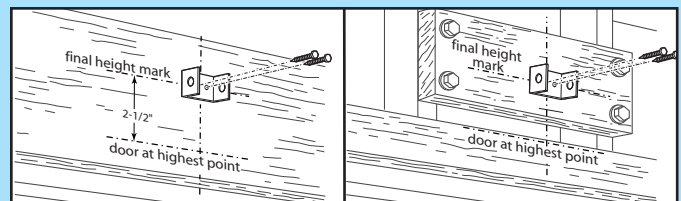

FIG. 2-3 Header bracket mounting (on header & above header).
**NOTE:** If header bracket location needs to be above header for garage door opening, you need to add a "mounting surface." A 2" x 6" board securely attached (board and fasteners not included) to wall studs on either side of your mark is sufficient (**Fig. 2-3**).
- Hold header bracket against wall (**Fig. 2-3**).
- Fasten header bracket with 2 lag screws (provided) (**Fig. 2-3**).